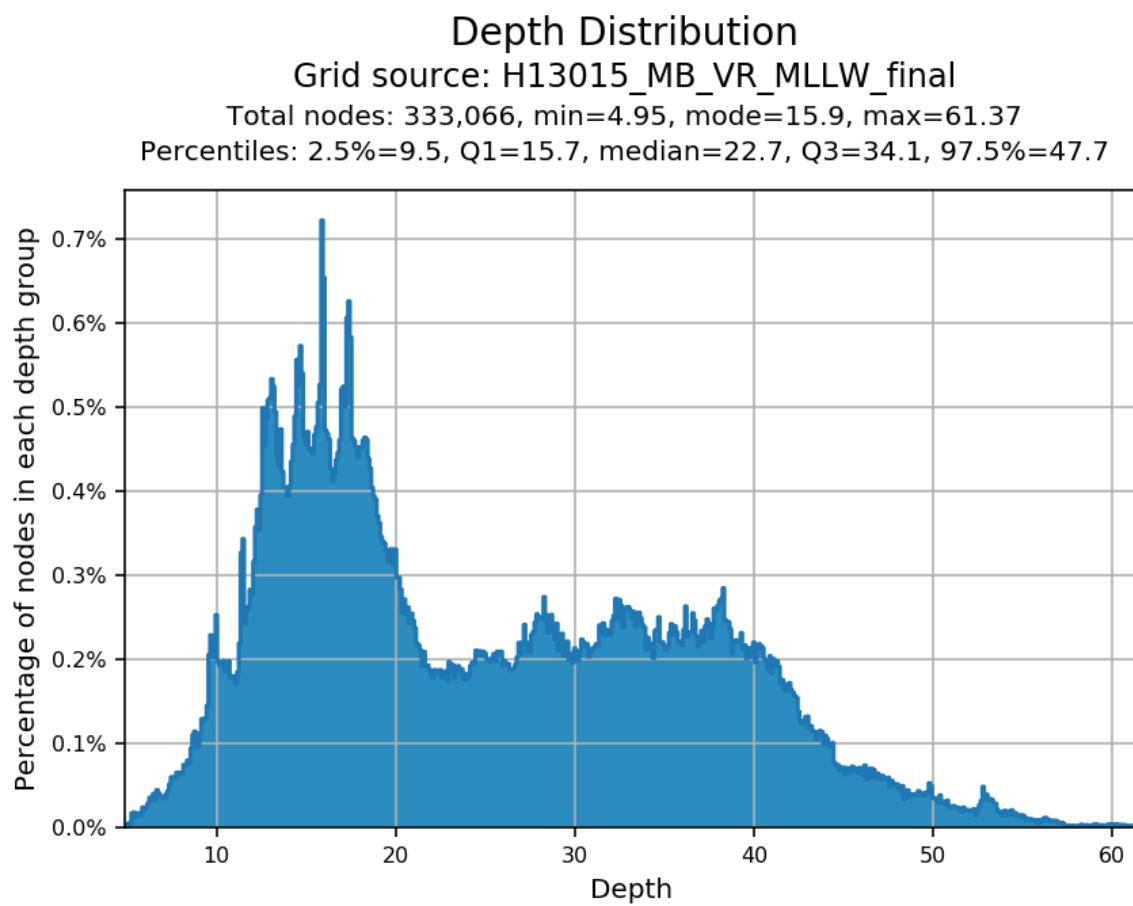

Fig. 2.28: A histogram of the percentage of total nodes at each depth represented in the surface.
- Depth Distribution (Fig. 2.28).